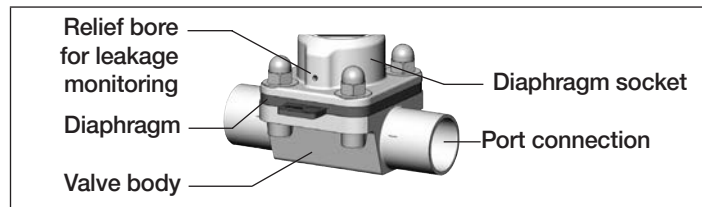

Fig. 29: Relief bore
- Pressurize lower pilot air port with compressed air (value as indicated on the type label) (see “Fig. 29”). This is required to detach the diaphragm without damage from the body.
→ Periodic control of the leakage detection bore (see “Fig. 29”)